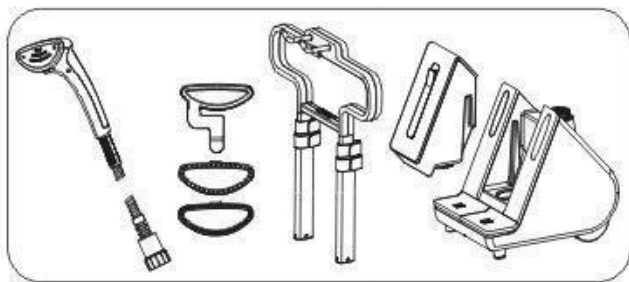

Fig. 1
- Fig 1: You will find the following parts:-